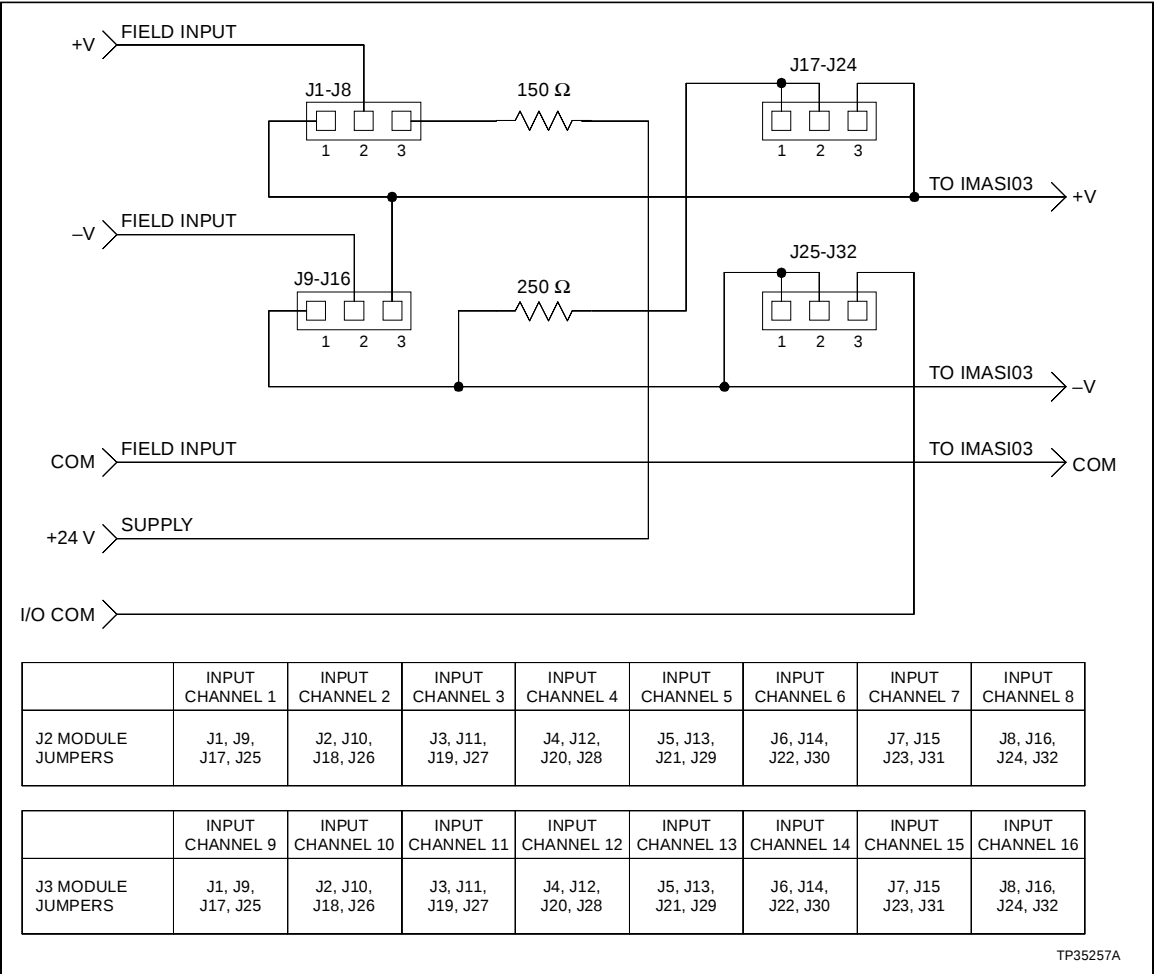
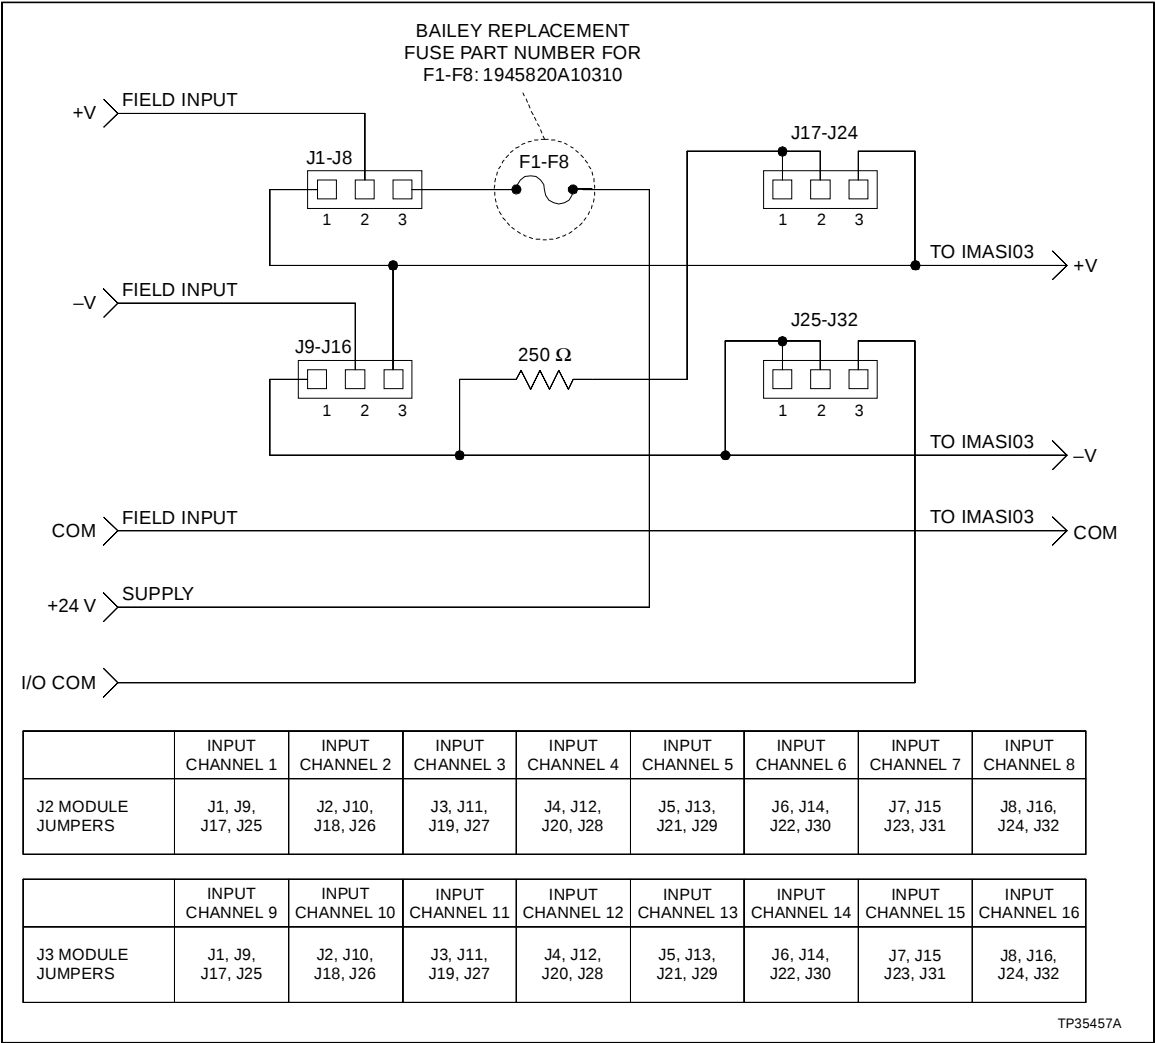

Figure A-5. Typical Input Circuit for Revision A Hardware
Figure A-6. Typical Input Circuit for Revision B Hardware
- Figure A-5 shows a typical input circuit for the revision A hardware NIAI05. Figure A-6 shows a typical input circuit for the revision B hardware NIAI05.